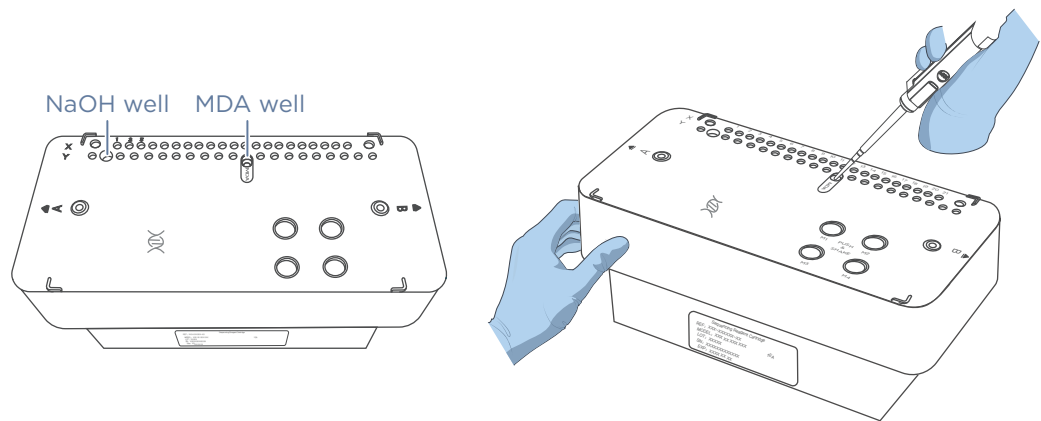

Figure 13 Adding MDA mixture
5. Pierce the seal of the MDA well by using a clean 1 mL sterile pipette tip. The position of the MDA well is shown in *Figure 13 on Page 58*.